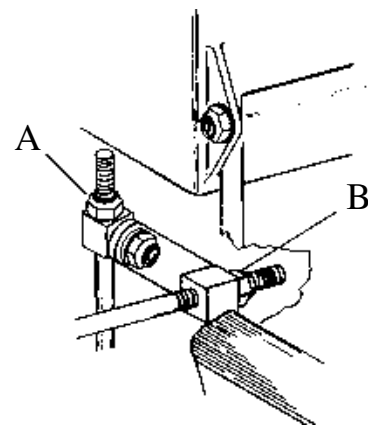
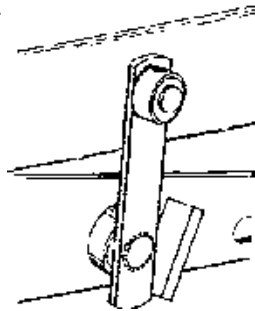

Figure 6.6 Cutterhead Lift rod
Figure 6.7 Engagement Rollers
3. Adjust the nyloc nut (A) located on the cutterhead lift rod to give a low cut of 15mm measured at the front of the blade tip circle. Figure 6.6.
2. Adjust the nyloc nut (B) Figure 6.6 on the engagement rod till the rollers on the cutterhead engagement arms contact the ramps on the front cutterhead supports arms. Figure 6.7.